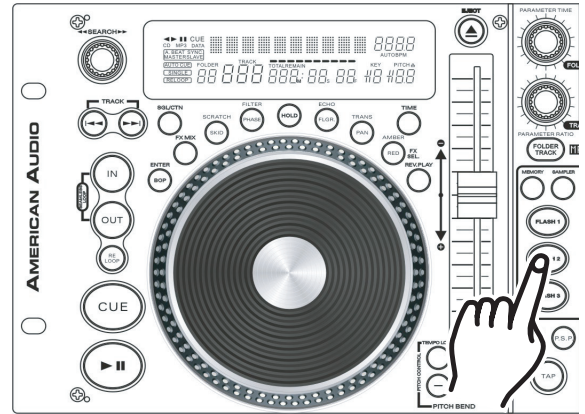

Figure 24
- 2) Press the **MEMORY BUTTON (12)**. The **MEMORY BUTTON (12)** will glow red indicating memory is ready to be stored.
- 3) Select one of the three **BANK/FLASH BUTTONS (31)** you wish to store your loop in and press that button.
- 4) The **MEMORY BUTTON (12)** LED will turn off, when your sample is locked into memory.
- 5) At this point your sample has been stored into memory. The original loop you used to create the sample will remain playing until the **OUT BUTTON (2)** is pressed (Figure 24).